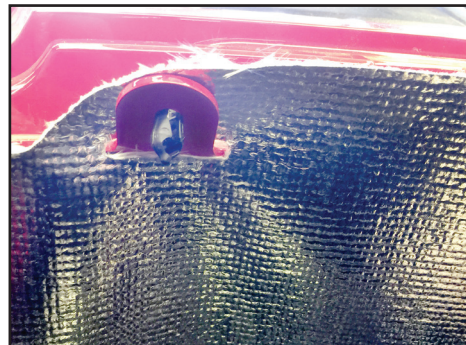

Figure 9
9. Using the factory pins previously removed finish installing the glass fiber shield. For remaining holes use the DEI supplied push pins. Fig 9